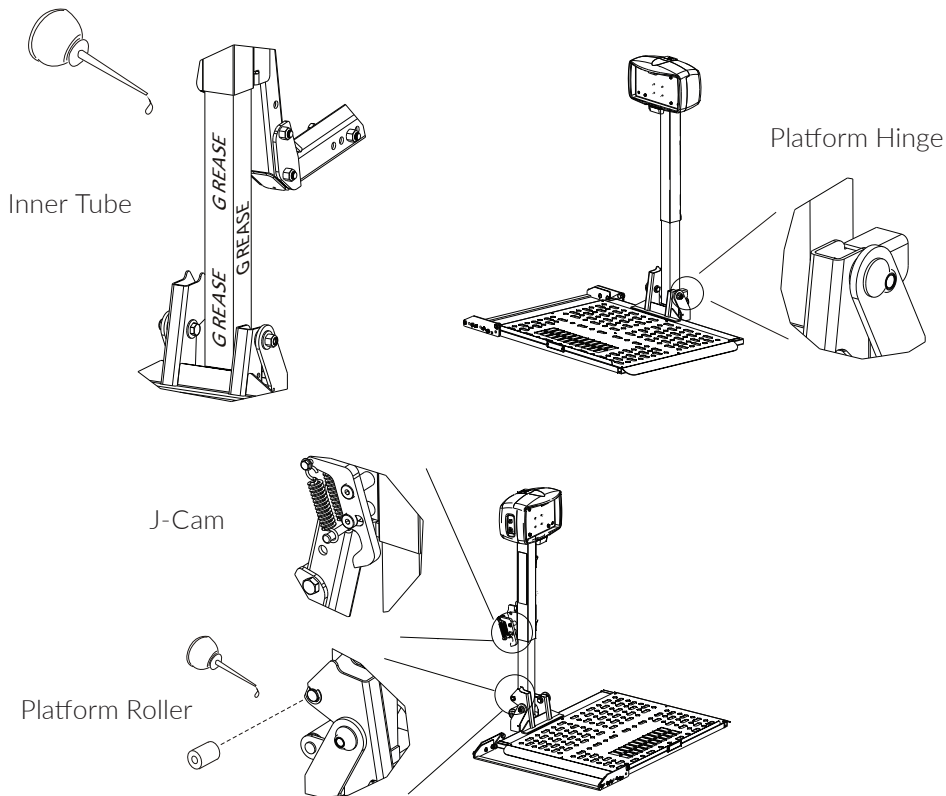

Figure 8-1
- Oil pivot points on all moving parts every Six (6) months.
- Grease the inside vertical square tube once a year (every six [6] months under hard conditions or extreme weather). Lower the platform to the ground and clean the tube with mineral spirits, WD-40® or a good solvent. When clean, grease the square vertical tube shaft with high-grade water-resistant grease such as boat trailer wheel-bearing grease. See Figure 8-1.